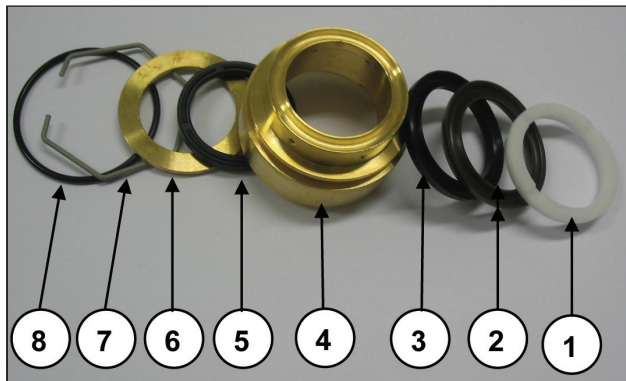

Fig. 44
Pay attention to the order of seal pack disassembly as indicated in Fig. 44 composed of:
- B) Lubricate the ②③⑤ components (Fig. 44) with OCILIS silicone grease code 12001600. This operation is also deemed necessary to facilitate adjustment of the lip seal on the piston.